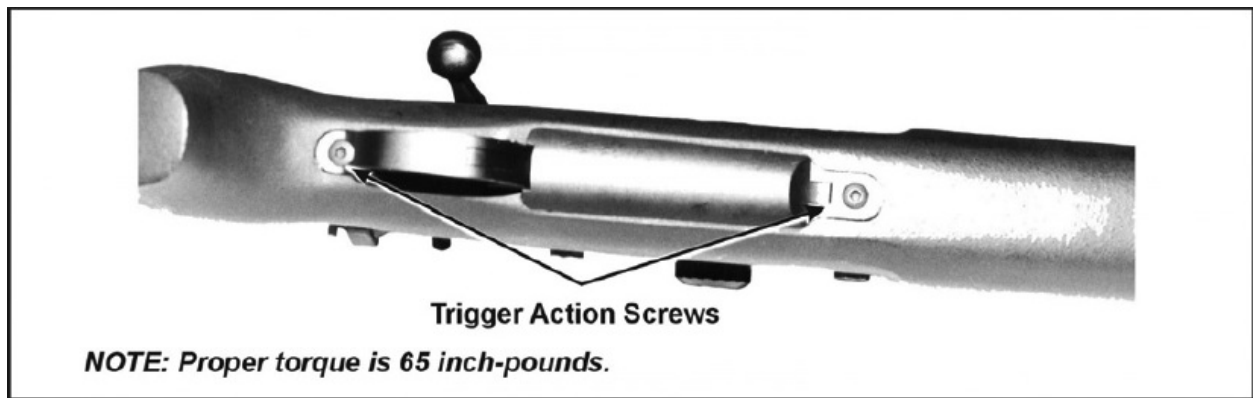

Figure 2-29. Location of the trigger action screws
- Remove the two trigger action screws (Figure 2-29).